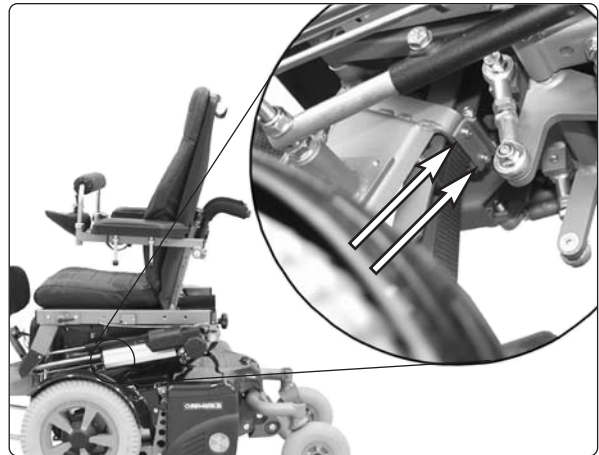

Fig. 95. The leg rest strap's rear bracket.
3. Loosen the two screws on the belt's rear bracket, see Fig. 95.